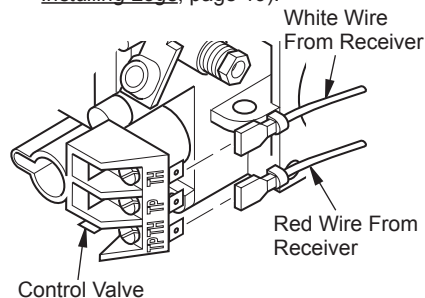

Figure 23 - Connecting Wires
- Connect wires to control valve at the TPTH and TH locations as shown in Figure 23.